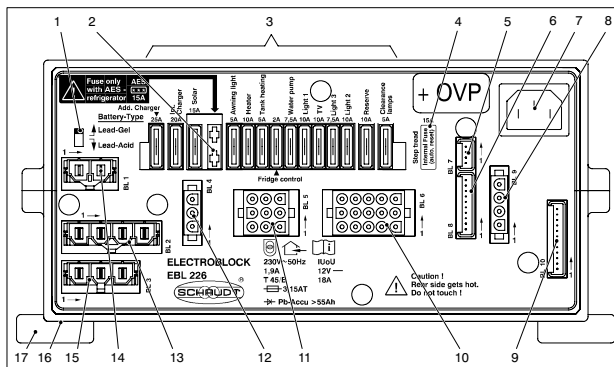

Bild 4 Aufbau Elektroblock EBL 226 b mit OVP (Front)
- Make sure the AES fuse (Fig. 4, Pos. 2) is only used when the AES refrigerator is connected. Otherwise, the living area battery may be totally discharged. Damage to the battery is possible.